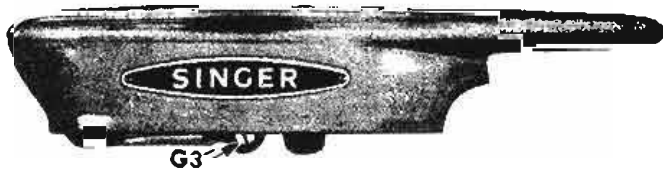

Fig. 53. Lamp Shade
Spring Y3 must be hooked around hinge pin Z3, as shown in Fig. 53, and hooked on arm A6, (as shown in Fig. 59, page 33).
1. Remove screw G3, Fig. 53 which fastens lamp shade to machine arm and remove lamp shade.